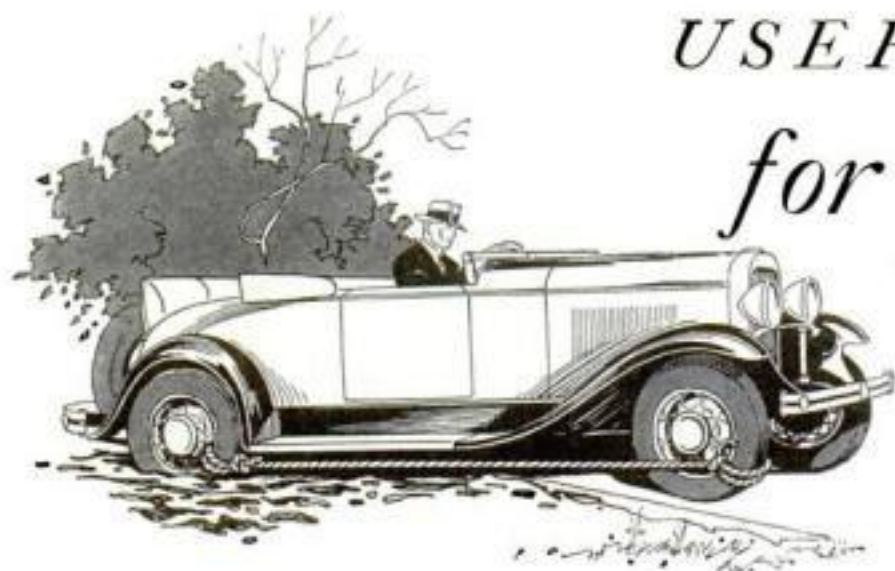
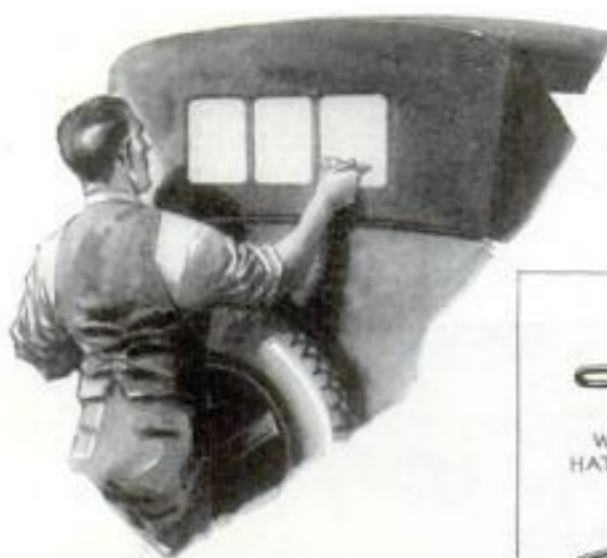
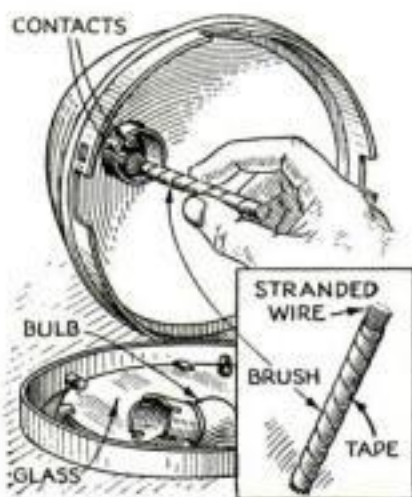
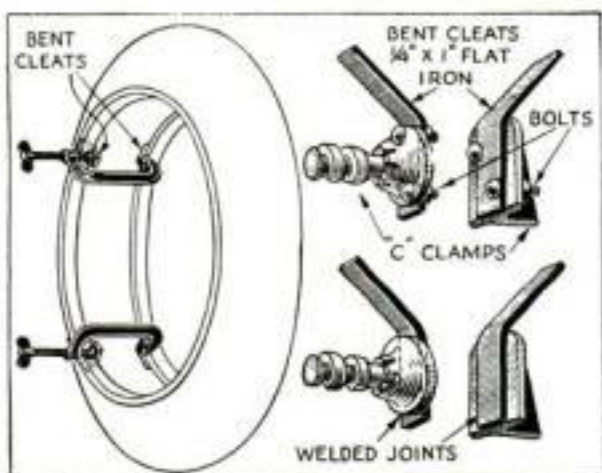

Fig. 1. By tying a rope from the rear wheel to the front one, a kind of four-wheel traction is possible to help a car out of mud when rear wheels sink in
Fig. 3. Collodion, acetone, and alcohol mixed will clean celluloid
Fig. 4. A bundle of picture wire, taped together, forms a brush to clean lamp contacts
Fig. 2. Tire spreaders that are handy for heavy work are made of strap iron welded to C clamps
**A** MUDDY road would have to be unusually bad to stall a motor car if it had four-wheel drive. You can take advantage of this fact the next time you get stuck. Figure 1 shows a way to obtain traction with all four wheels. Tie a rope to the front side of the rear wheel in line with the bottom of the running board. Fasten the other end of the rope to the front wheel at approximately the same point. Then if you let in the clutch with care, the front wheel will be pulled around for about a third of a revolution and the car will be pulled forward that far. If both of the rear wheels are mired, both front wheels can be roped in this manner. Of course, care must be used with this method, as the automobile can only be driven a couple of feet with one tying of the ropes.
Each month we award \$10 for the best idea sent in for motorists. This month's prize goes to B. Elkin, Woodside, Long Island, N. Y. (Fig. 3). Contributions are requested from auto mechanics, and if printed will be paid for at usual rates.
**C**LEANING contacts in lamp sockets is difficult. A tool that does the work easily is shown in Fig. 4. To make it, take several pieces of stiff picture wire and lay them side by side in a bundle. Tape tightly, leaving about 3/16 of an inch of wire exposed at one end.
Gages for dimensions under ½ in. are made as in Fig. 1. In regrinding to size,
For dimensions over ½ in., the gages are made as in Fig. 2. From .003 to .005 in. is removed from each side of parts Nos. 2 and 4, and after the gage has been reassembled, the dimensions are finished in the usual manner. This is, indeed, the proper procedure for this type of gage; but often the required size is much under ½ in., and, since it is not safe to thin a medium grade grinding wheel to such a size, the method first described should be used.
Twice the usual service can be obtained from double-end snap gages. Sizes under ½ in. are made as in Fig. 1; larger sizes as in Fig. 2
Cut out the camera form (Fig. 2) making the distance *BC* the same as the focal length of the lens. Cut slot *A* for the shutter, which is shown in Fig. 3. The spring hooks into the notch in the middle of the shutter. The film spool (Fig. 4) is a six-penny nail filed down at one end and slit lengthwise as shown.